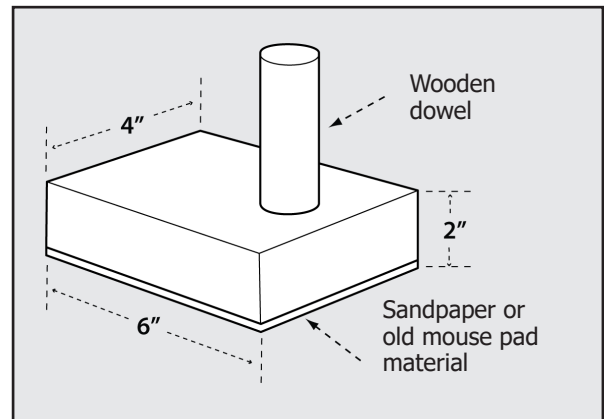

Figure 59
3. Glue a piece of rough or soft material such as sandpaper or rubber to the bottom of the block to grip the workpiece (old mouse pads work well). See Figure 59.